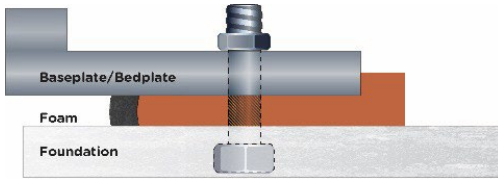

Figure 6 – Complete repair
e) Remove the front metal/wood piece from the dam by carefully hitting it with a hammer or mallet. The repair should look as in Figure 6 below.